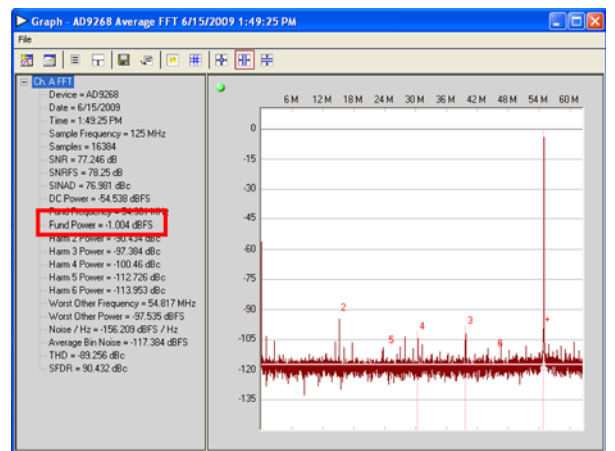

Figure 14. Graph Window of VisualAnalog
1. Adjust the amplitude of the input signal so that the fundamental is at the desired level. (Examine the **Fund Power** reading in the left panel of the **VisualAnalog Graph - AD9268 Average FFT** window.) See Figure 14.